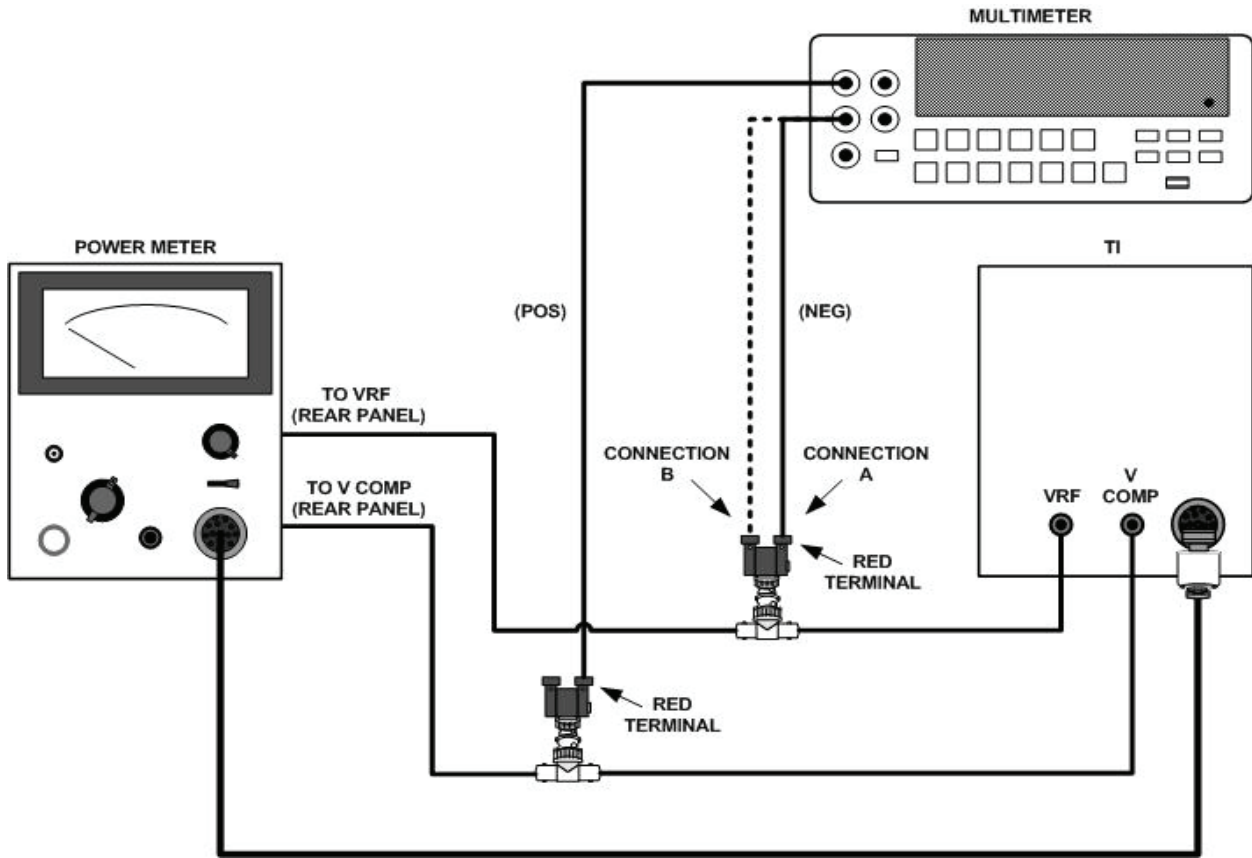

Figure 1. Range accuracy - equipment setup.
- (1) Connect equipment as shown in figure 1, connection A.
- (2) Position power meter controls as listed in (a) through (d) below:
- (1) Connect multimeter as shown in figure 1, connection B.
- (2) Turn TI **POWER (mW)** switch to **.01**.
- (3) Turn TI **FUNCTION** switch to **SET**.
- (4) Set power meter **MOUNT RESISTANCE** switch to **200Ω**. The multimeter will indicate between 5.890 and 5.910 V dc.
- (5) Turn TI **FUNCTION** switch to **CHECK**. The multimeter will indicate between 2.190 and 2.210 V dc.
- (6) Turn TI **FUNCTION** switch to **200Ω**. The multimeter will indicate between 5.897 and 5.903 V dc.
- (7) Turn TI **POWER (mW)** switch to **.03, .1, .3, 1, 2, and 3**. In each position the multimeter will indicate between 5.897 and 5.903 V dc.
(8) Turn TI **POWER (mW)** switch to **10**. The multimeter will indicate between 3.097 and 3.103 V dc.
(9) Turn TI **POWER (mW)** switch to **.01**.
(10) Set the power meter **MOUNT RESISTANCE** switch to **100Ω**.
(11) Turn TI **FUNCTION** switch to **100Ω**. The multimeter will indicate between 2.197 and 2.203 V dc.